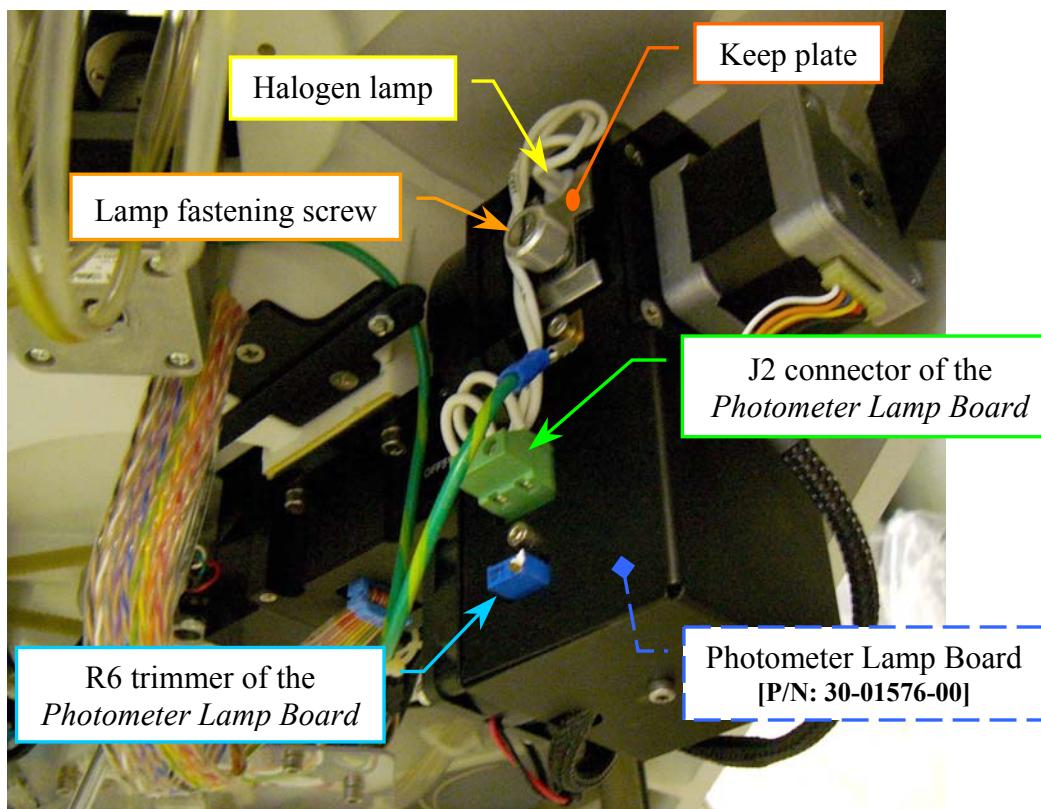

Fig. 52 – Photometer [P/N: 15-02448-00]
7. Make sure that the voltage on the J2 connector of the "Photometer Lamp Board" (**Fig. 52**) is equal to **5.8 Volts** ± 0.1 . If it not be so, turn the R6 trimmer (**Fig. 52**) for adjusting the voltage.
3. Unscrew the two screws of the J2 connector of the “Photometer Halogen Lamp” (**Fig. 52**) and take out the two lamp wires from the connector.
4. Unscrew the lamp fastening screw (Fig. 52) and remove the lamp keep plate (Fig. 52) from the Photometer.